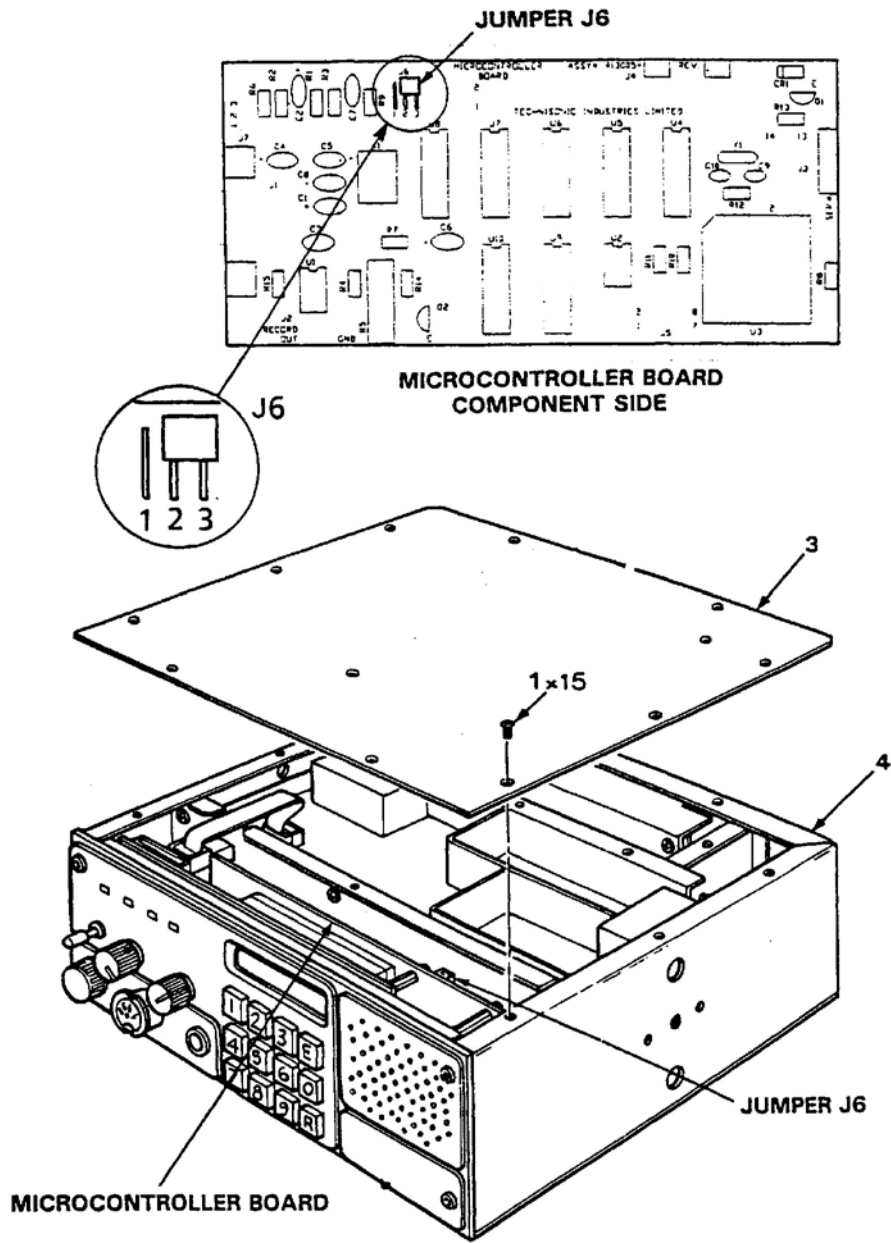

Figure 3-2 Fixed Channel Jumper Locations
- (1) Refer to Section 2 for Transceiver installation and removal procedures.
- (2) Remove and retain 15 flathead screws (1) securing transceiver top cover (3) to chassis (4). Refer to Figure 3-2.
- (3) Position Jumper J6 on pin 1 and pin 2 to disable keyboard entry of frequency selection and lock operating configuration.
- (4) Position Jumper J6 on pin 2 and pin 3 to enable keypad frequency selection and unlock operating configuration.
- (5) Position Transceiver Cover (3) on Chassis (4). Ensure that cover holes are aligned with threaded inserts.
- (6) Position 15 flathead screws (1) and through cover (3) holes into chassis (4) threaded inserts. Tighten screws with fingers.
- (7) Tighten screws securing Transceiver Cover (3) to Chassis (4).
- (8) Refer to section 2 for Transceiver installation and removal procedures.